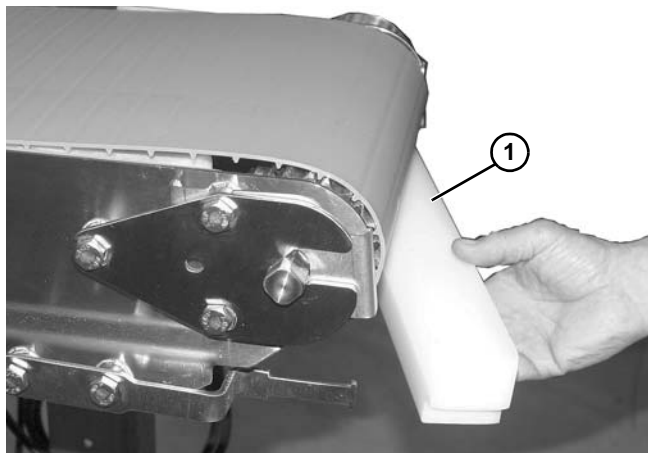

Figure 31
2. Remove limiter bar (**Figure 31, item 1**).